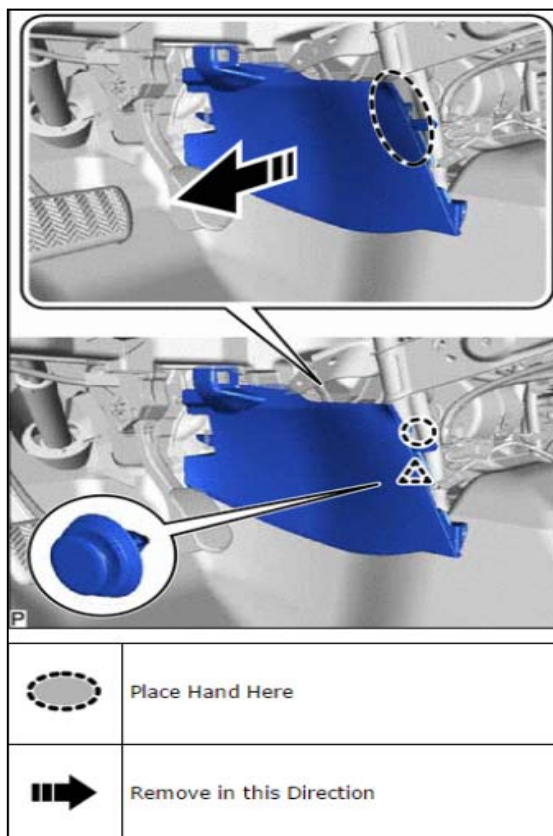

Figure 21
- a. Disengage the clip as shown. See Figure 21.